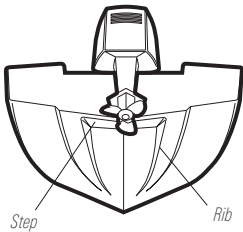

Figure 10
- On boats with stepped hulls, it may be possible to mount the transducer on the step. Do not mount the transducer on the transom behind a step to avoid popping the transducer out of the water at higher speeds. The transducer must remain in the water for the control head to maintain the sonar signal (Figure 10).